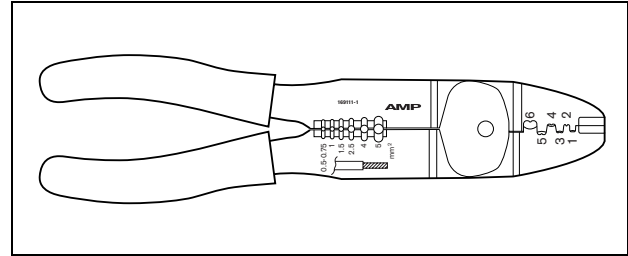

figure 18.14: Tyco AMP 169111-1 pliers
- Tyco AMP 169111-1 pliers (see figure 18.14)